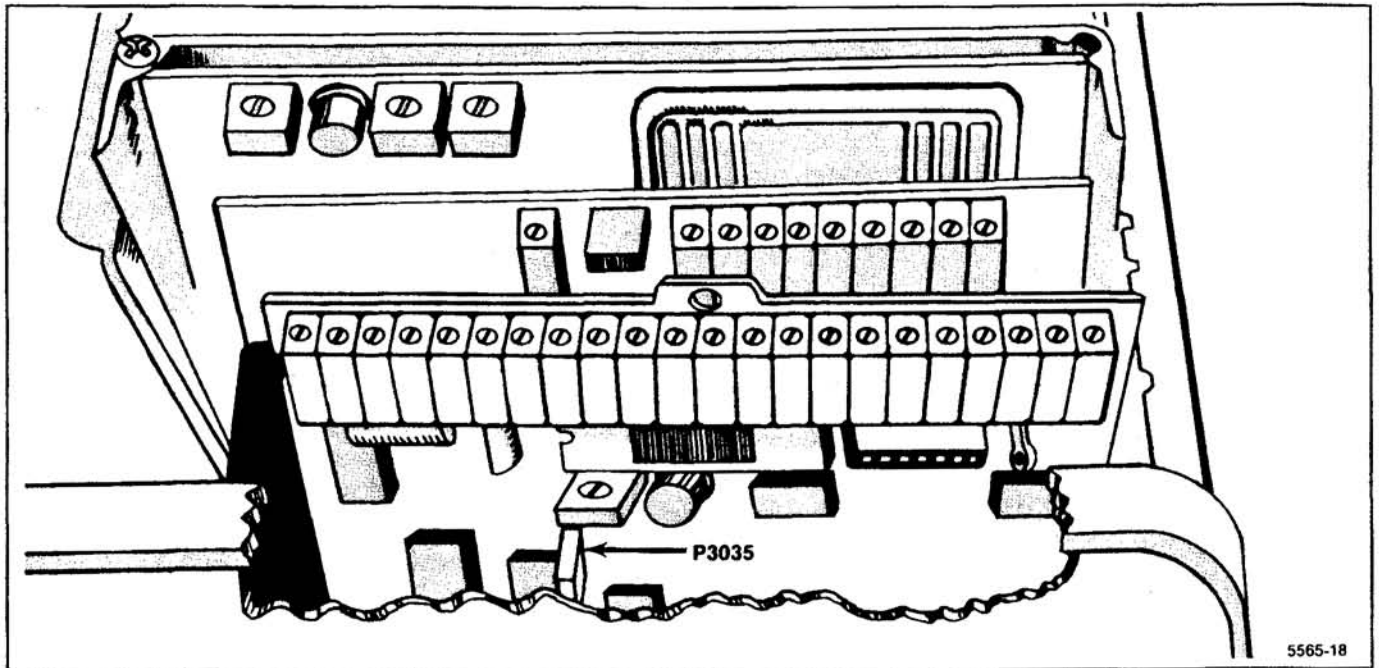

Figure 5-11. P3035 on the Video Processor board.
a. Set the Log Amplifier correction factors to zero by pressing <Blue-SHIFT> PULSE STRETCHER (DIAGNOSTIC FUNCTIONS) and selecting item 5 (DISABLE/ENABLE USE OF CAL FACTORS), then item 2 (SET RESULTS TO "UNCALLED"). Remove Leveler Disable plug P3035 on the Video Processor board (Figure 5-11).